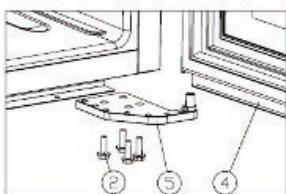

Figure 2
- Unscrew the M5*16screws ②,dismantle the right lower hinge ⑤.[Figure 2]